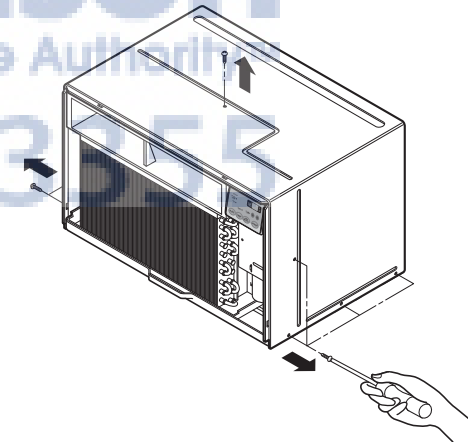

FIG. 2
1. After disassembling the FRONT GRILLE, remove the 9 screws which fasten the cabinet at the both sides and the top. (See Fig. 2)